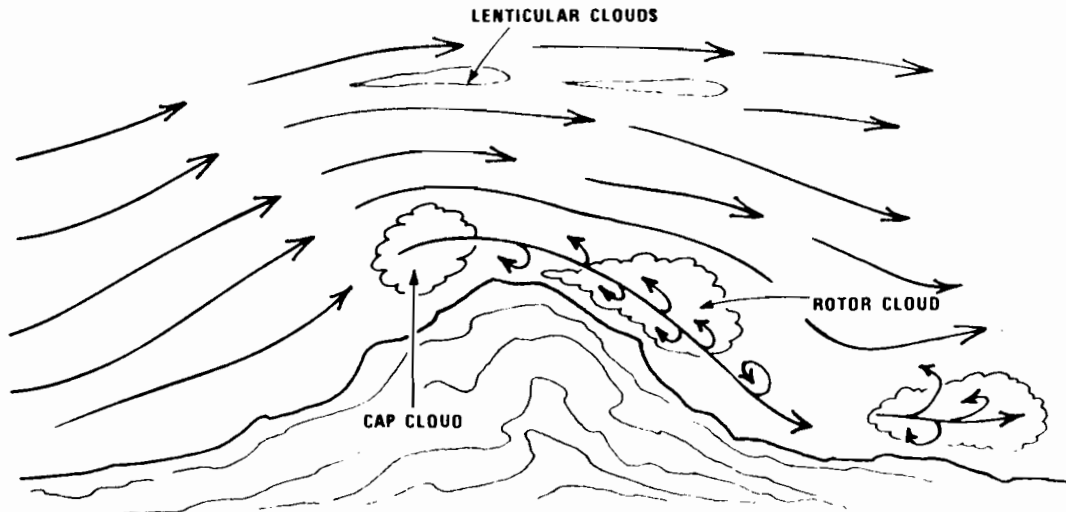

Figure 8-1
c. Mountain Wave. When the winds are blowing perpendicular to a mountain range, and the velocities are above about 20 knots, a mountain wave might form. Figure 8-1 shows a typical mountain wave situation. Notice that the three visible indications of a mountain wave are lenticular clouds, rotor clouds, and cap clouds.